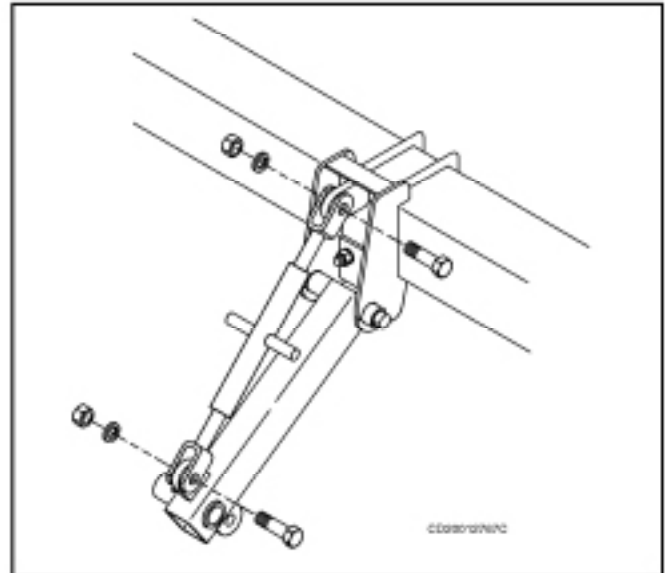

Figure 29 Attaching Screwjack
2. Attach screwjack, using two 1 x 3" hex bolts, lock washers, and hex nuts as shown in Figure 29.